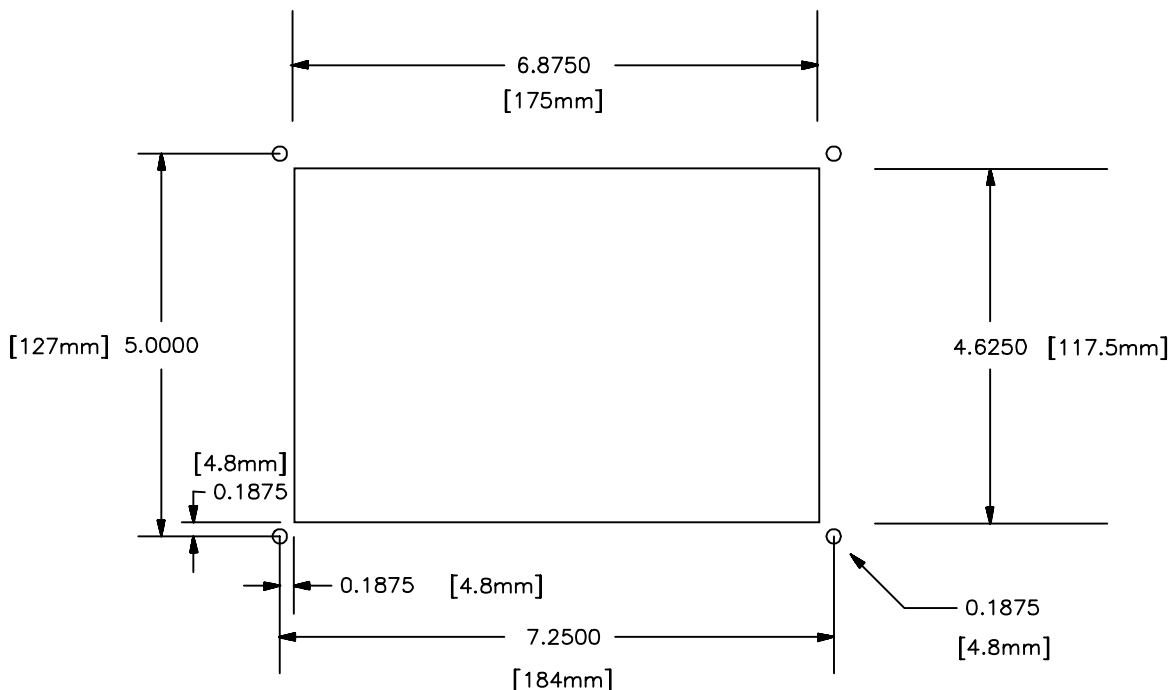

Figure 2.1 – Panel Cutout
- A. Cut the host panel as shown by figure 2.1